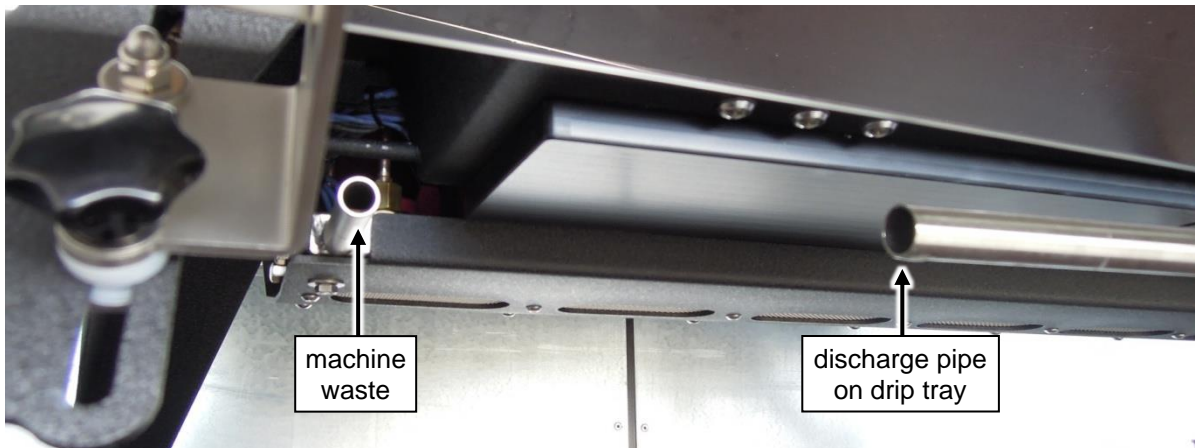

Figure 13. Spirit seen from bottom front without hoses attached to the machine-waste and drain pipe on the drip tray.
1. Position the stainless steel hose clamp on one end of the discharge hose. Slide the end of the hose over the machine's waste-pipe (see Figure 13) and tighten the hose clamp.